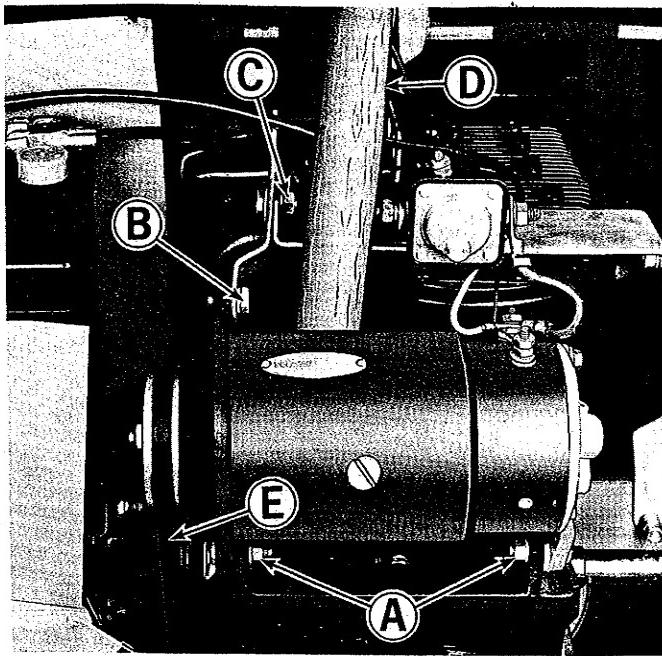

Figure 14. Generator located on right side of engine.
See figure 14. If the starter turns, but the engine does not rotate, the starter generator belt may need tightening. Proceed as follows:
2. See figure 14. Loosen slightly the two nuts (A) cap screw (B) and nut (C). Use a pry bar similar to the one shown between the generator and engine block to apply pressure to the generator and tighten the belt. The belt should be tight enough so thumb pressure at (E) will deflect it about $1/4''$.
3. While holding the pry bar to maintain tension on the belt, tighten the mounting bracket at (C) securely.
4. Actuate the starter to make sure the engine will rotate. If it does not, loosen the nut at (C) and apply more tension to the belt.
5. Tighten the two nuts at (A) and the cap screw (B) securely.